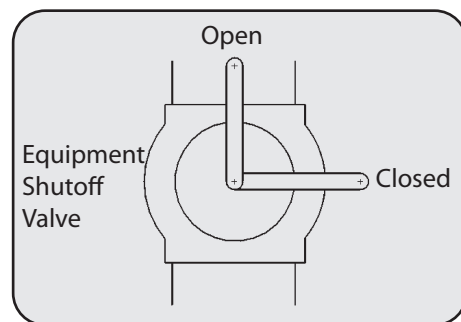

Figure 13
1. The appliance must be isolated from the gas supply piping system by closing its equipment shutoff valve during any pressure testing of the gas supply piping system at test pressures equal to or less than ½ psi (3.5 kPa). See Figure 13.
3. Open equipment shutoff valve. See Figure 13.